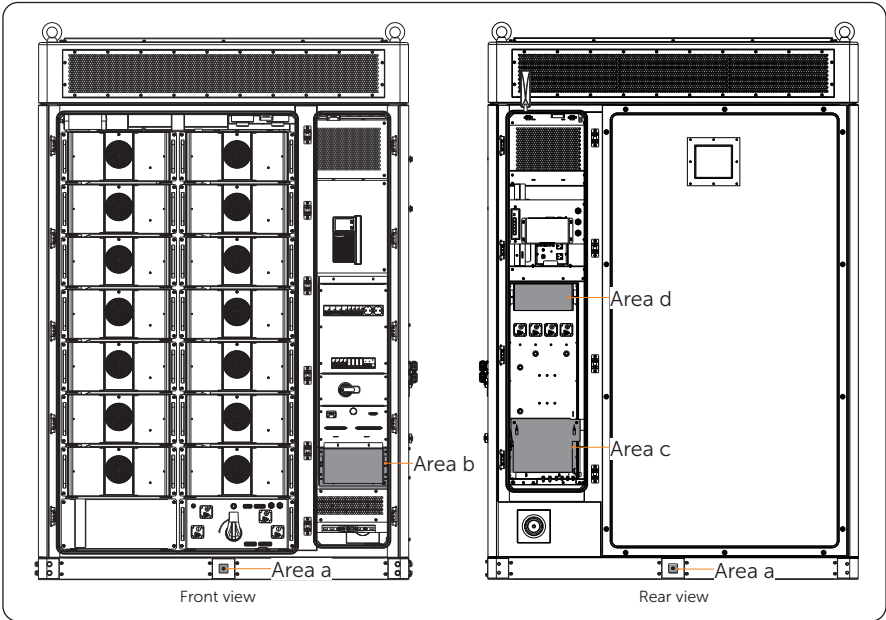

Figure 7-1 Wiring area
- Before wiring, operators are required to learn which parts need to be conducted wiring. For details, please refer to Figure 7-1.